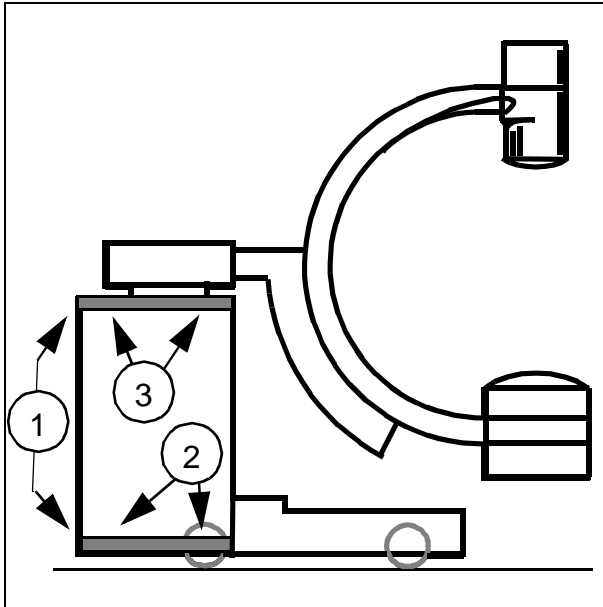

Fig. 1
- Using the Allen key, remove the three screws in the rubber strip (1/Fig. 1).
- Remove the screws from the rubber strip (2/Fig.1).
- Loosen the screws on the top (3/Fig.1).